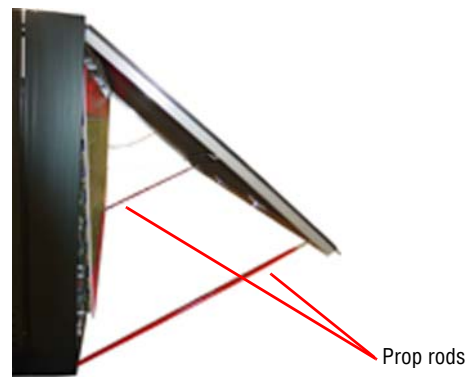

Figure 17: Lifting the sign door
7. Raise each prop rod for the door and fasten under the door. See Figure 17, “Lifting the sign door,” on page 37.